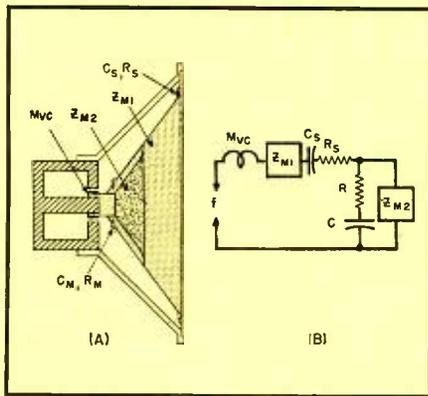

Fig. 10. (A) Mechanical system of double-cone single-coil loudspeaker. (B) Equivalent electrical circuit of the double-cone speaker.
This system is illustrated in Fig. 10. It consists of a single voice coil coupled to two cones as shown in (A), with the two cones coupled together by a compliance. The operation can be understood by reference to the analogue circuit in (B). At low frequencies the reactance of the compliance is large compared to the mechanical impedance  $Z_{M2}$  of the large cone, therefore the entire current flows through  $Z_{M2}$  and the entire system moves as a whole. At high frequencies the reactance  $C_M$  is small compared to  $Z_{M2}$  and shunts it, therefore the small cone moves while the large one remains stationary. A system of this type makes it possible to extend the frequency range of the loudspeaker by almost a full octave, depending upon the mass and electrical characteristics of the voice coil.